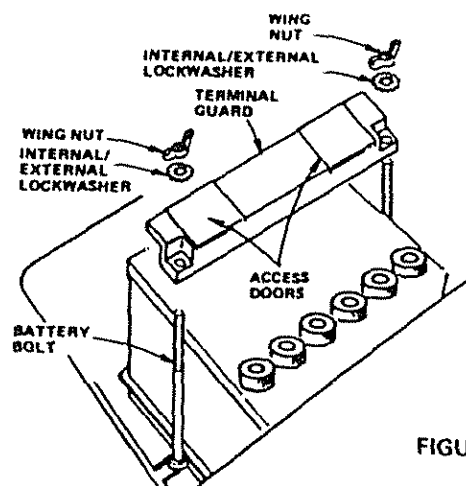

FIGURE 5
- Using the key hole on one side of the battery support (Fig. 5) slide battery bolt into frame key hole (head of bolt down). Fasten the battery bolt to the terminal guard using internal/external lockwasher, wing nut, (shown full size on pg. 6) as shown in Fig. 5.
- Assemble the remaining battery bolt to other side of battery support and fasten terminal guard to it with remaining internal/external lockwasher and wing nut, (Shown full size on pg. 6). Tighten wing nuts securely by hand (Fig. 5).